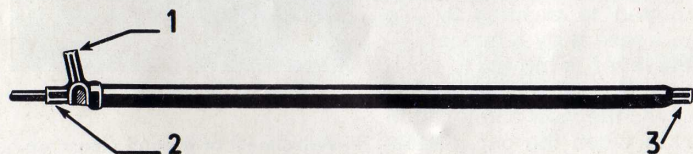

Figure 9
The spare wheel is housed under the hood. To change a wheel you have to use a special "Y" shaped stand which can be adjusted to different heights, a lever (fig. 9) with two hexagonal ends and a crank handle. Stand is set in the middle of the spare wheel lever and crank handle under same.
- Finish unscrewing the lug nut using the end **3** of the long lever (fig. 9).
- Tighten the lug nut using the end **3** of the long lever (fig. 9).